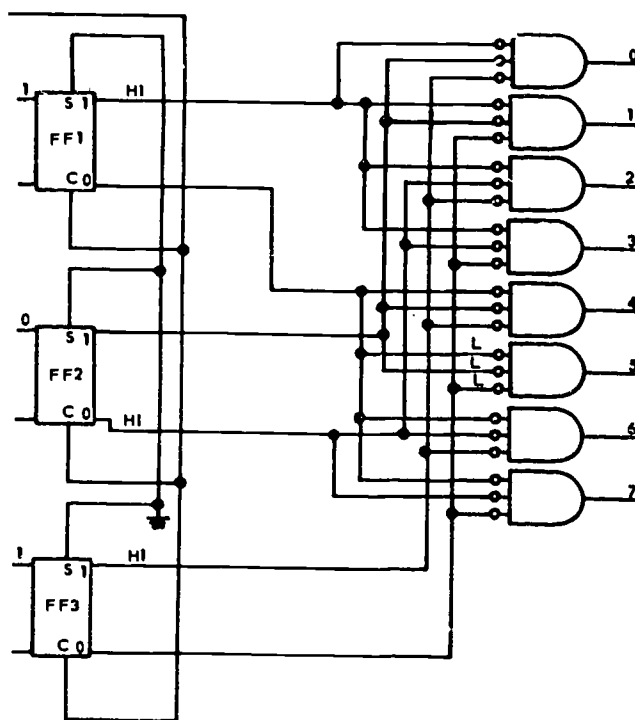
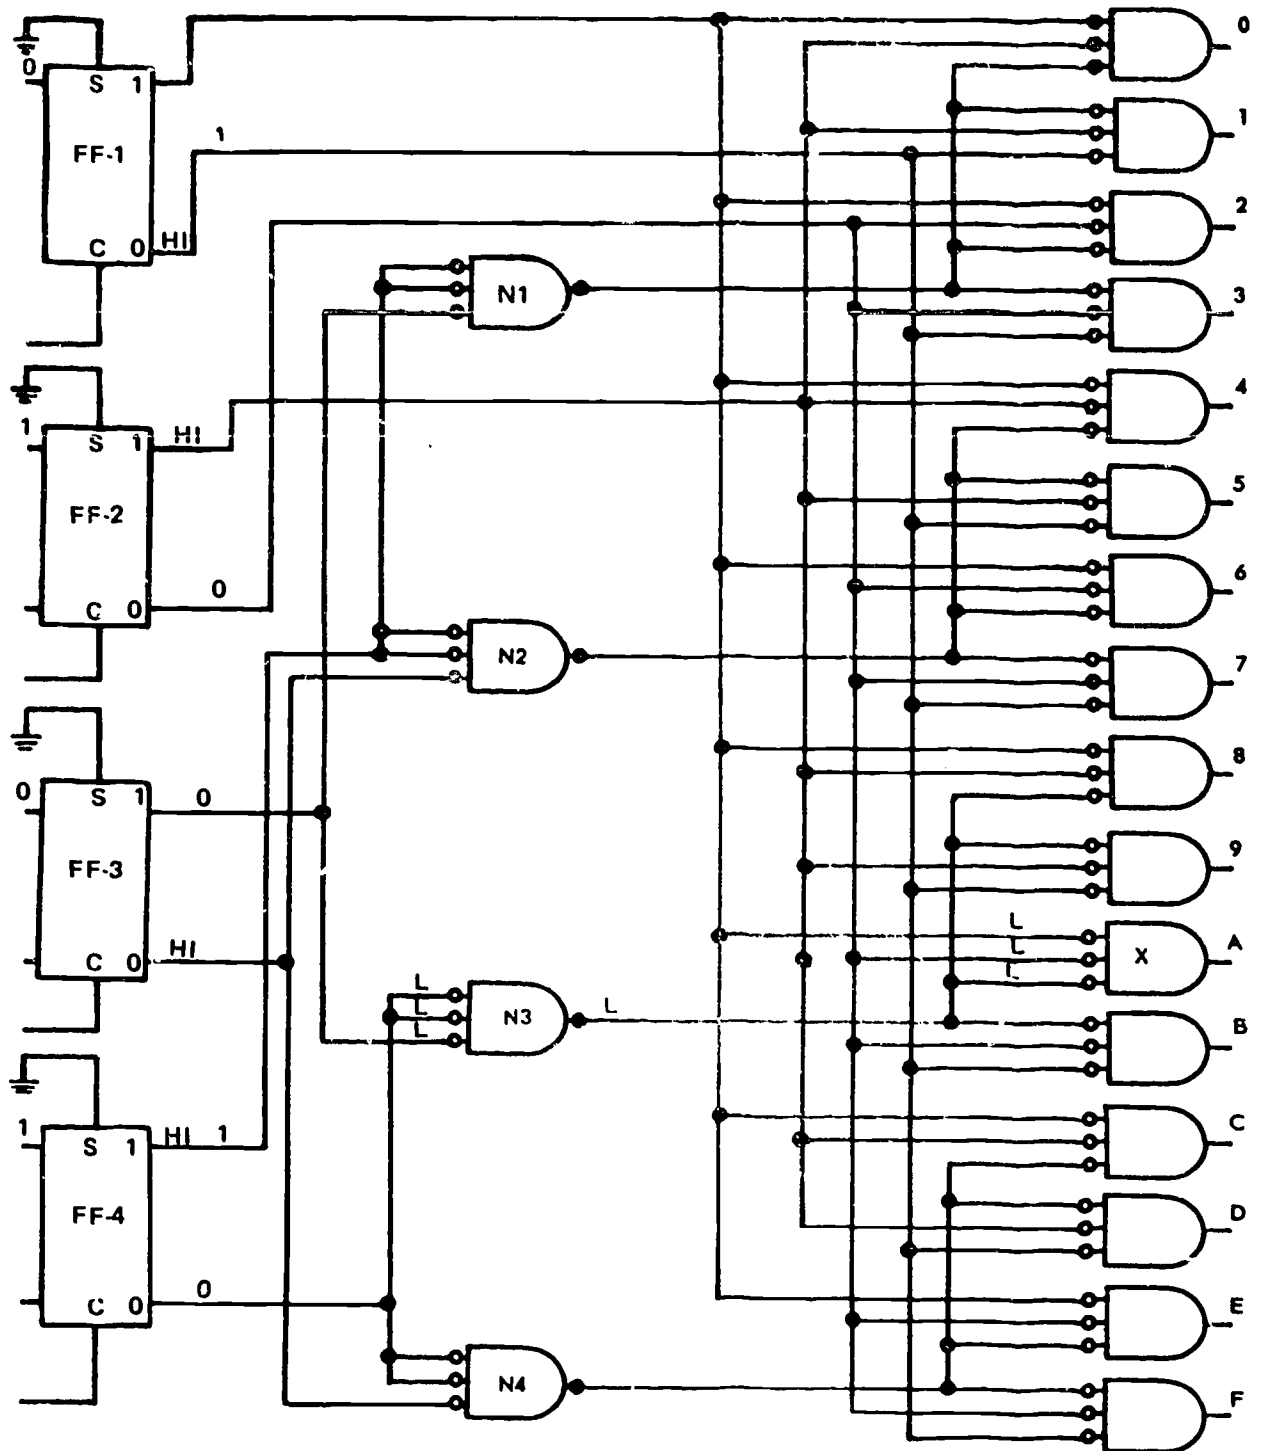

Figure 1-5. Binary register and octal decoder circuit.
Figure 1-6. Binary register and hexadecimal decoder circuit.
Binary-to-octal decoding. When decoding binary digits to either octal or hexadecimal digits, the decoding gates may be of any basic type, depending upon the manufacturer of the unit. However, the most commonly used gating circuits use the inhibited AND-gate as shown in figure 1-5. This is part of a 0-7 storage register and decoder logic diagram. Remember that converting binary digits to octal digits requires the grouping of three binary digits (with the capability of 0 to 7 count) to produce one octal digit. Follow the schematic in figure 1-5 for the decoding of binary 101 to an octal output of 5 ($101_2 = 5_8$).
Binary-to-hexadecimal decoding. To convert binary digits to a hexadecimal digit, again, as in the previous paragraph, you must think in terms of binary counting. Remember, it requires groupings of four binary digits to produce one hexadecimal digit. Figure 1-6 has been taken from a 0-15 storage register and decoder logic diagram. Follow the schematic in the figure as binary 1010 is decoded to the single-digit, base 16 number. Conversion of $1010_2 = A_{16}$.
- (7) $9_{10} = \underline{\hspace{2cm}}$.
- (8) $1_{10} = \underline{\hspace{2cm}}$.
- (9) $0_{10} = \underline{\hspace{2cm}}$.
- (10) $7_{10} = \underline{\hspace{2cm}}$.
- (11) $5_{10} = \underline{\hspace{2cm}}$.
- (12) The register in figure 1-5 is called _____.
- (13) The most commonly used gate in a binary-to-octal decoder is the _____ gate.
- (14) Binary digits must be in groups of _____ for conversion to octal digits.
- (15) Decoding circuit analysis is most easily done by first defining the specific output _____.
- (16) Conversion to a hexadecimal digit requires grouping of _____. The register in figure 1-6 is _____.
- (17) known as a _____.
- (18) A high input to any gate in figure 1-6 will _____ the gate.
- (19) When converting base 16, 10, or 8 digits to binary digits, the _____ gate is most commonly used.